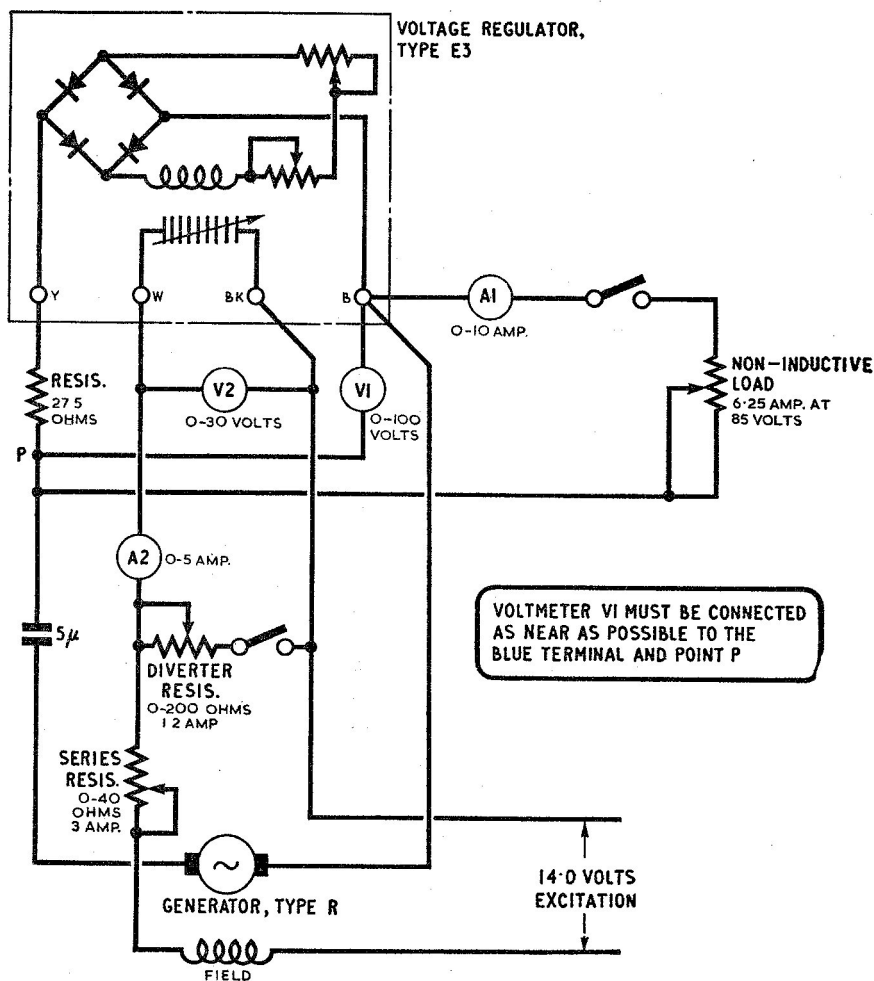

Fig. 2. Test circuit diagram
4. Connect the regulator in the test circuit as shown in fig. 2, the generator used being the Type R (Stores Ref. 5UA/1270) excited from a 14 volt supply. For all tests the adjustable arm of the trimmer resistor must be set in mid position and the speed of the generator is to be maintained at 4,000 r.p.m. unless otherwise stated.
12. The full tests are not necessary for a new regulator. It can be tested as follows, by connecting it in the test circuit as shown in fig. 2, but without the series and diverter resistors.